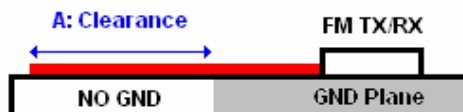

Figure 7. Stub (PCB Trace) Antenna - Side View
- Route the antenna as a "U" shape as shown in Figure 7.